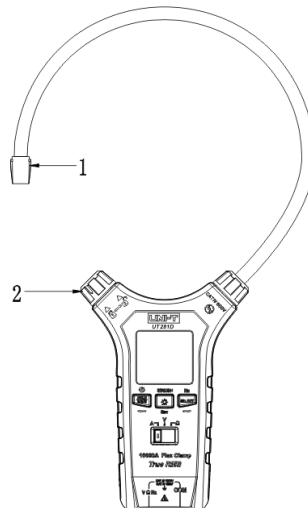

Figure 2.1
- 2) Rotate the coil lock to unlock, fully clamp the coil around the conductor to be measured, then rotate the lock to secure the coil. (Note: The clamp must be fully closed, see Figures 2.1 and 2.2)